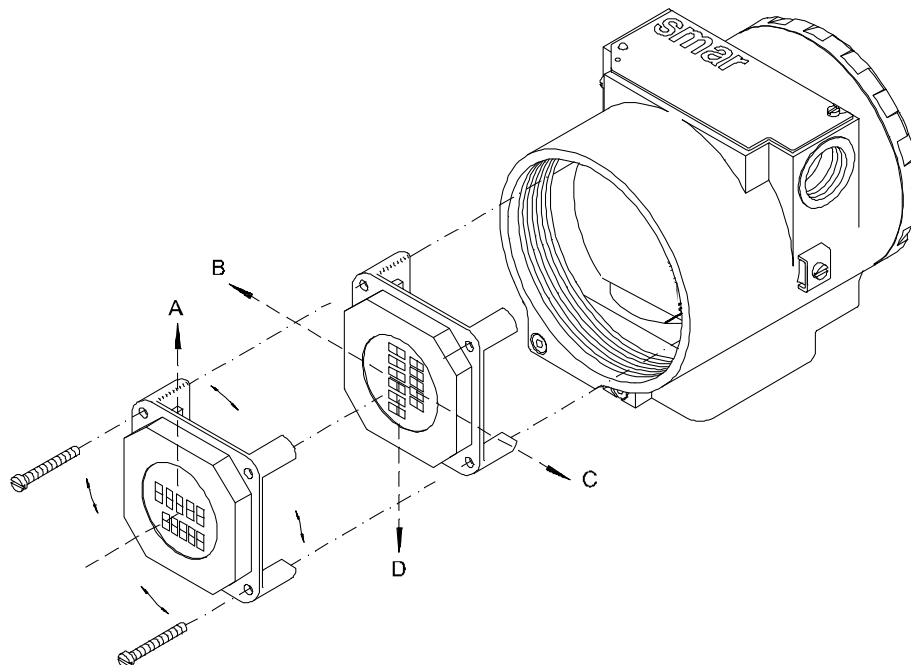

Figure 6.2 – Four Possible Indicator Positions
- Insert the output signal board (7) into the housing (9) and fasten it with its screws.
- Insert the main board (5) in the housing, making sure that all the pins are connected.
- The display may be mounted in any of the 4 possible positions (see Figure 6.2). The "▲" sign indicates the display upper position.
- Hold firmly the main board and the display with their screws (3).
- Fit the cover (1) according to the area classification and lock it with the locking screw (8).